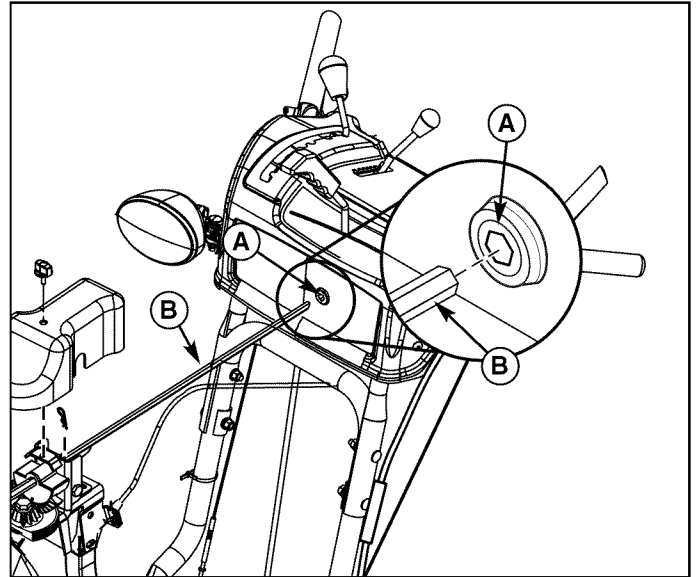

Figure 28. Install Spout Rotator Rod
16. Slide spout rotator rod (B, Figure 28) into hex dash opening (A).